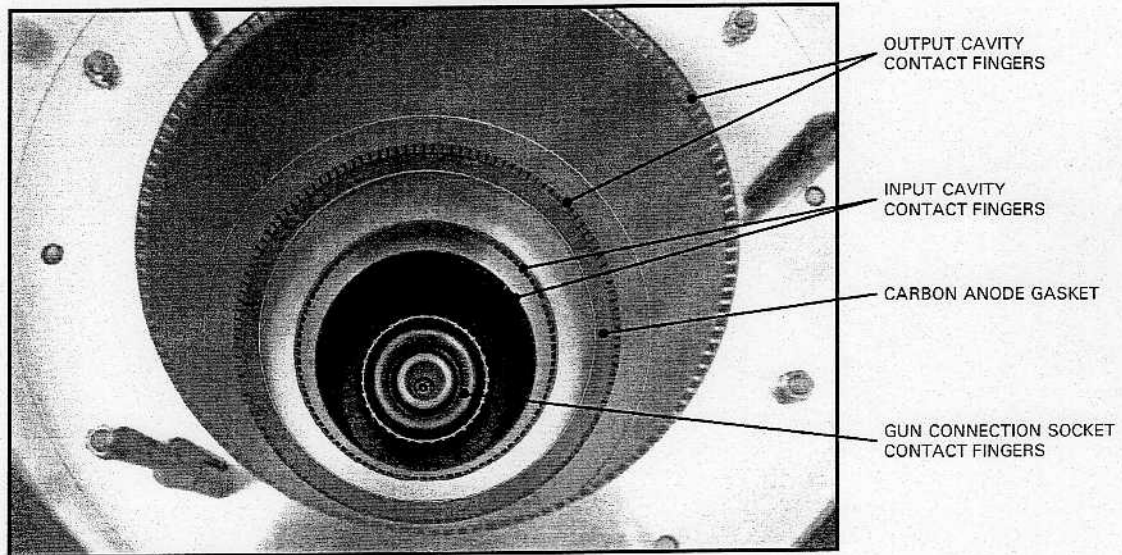

Fig. 5
- ii. Check that all contact fingers are in place and are undamaged (see Fig. 5). If replacement is required, refer to section 8.
- iii. Check that the carbon anode gasket is in place and is undamaged (see Fig. 5). If replacement is required, refer to section 8.